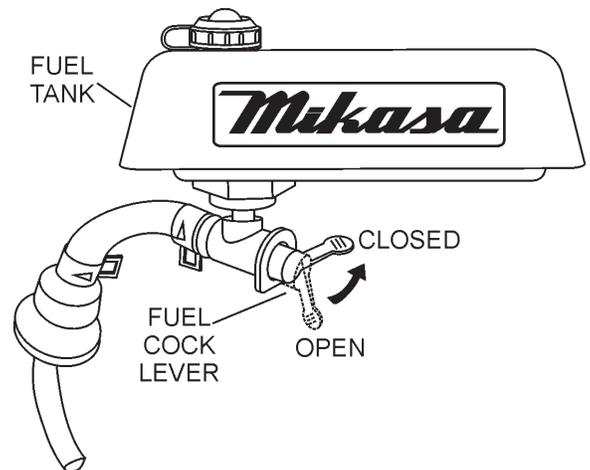

Figure 12. Fuel Shut-Off Valve (Off Position)
2. Close the **fuel shut-off valve** (Figure 12) by moving the fuel cock lever to the **CLOSED** position.